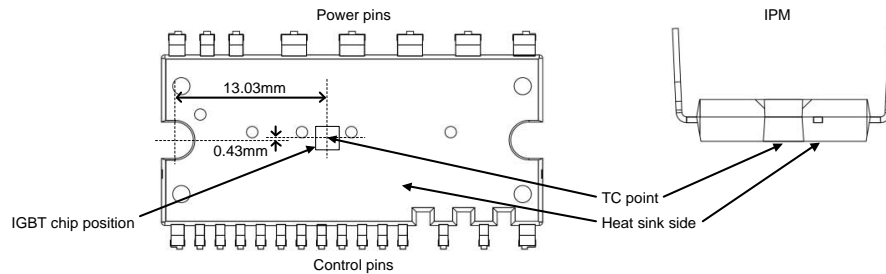

Figure 1. T_C Measurement Point
- For the measurement point of case temperature (T_C), please refer to Figure 1.